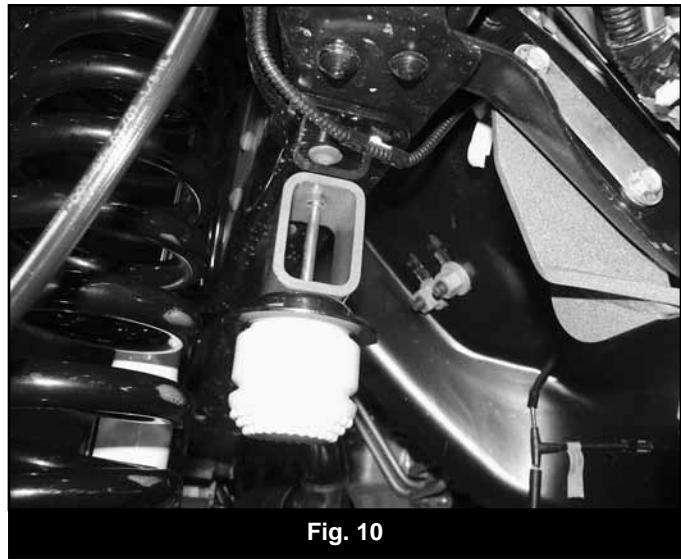

Fig. 10
25. Install a provided 8mm x 130mm bolt and 5/16" SAE washer through the cup extension and attach to the frame in the original hole. Use Loctite on the threads and torque to 20 ft-lbs (Fig 10).